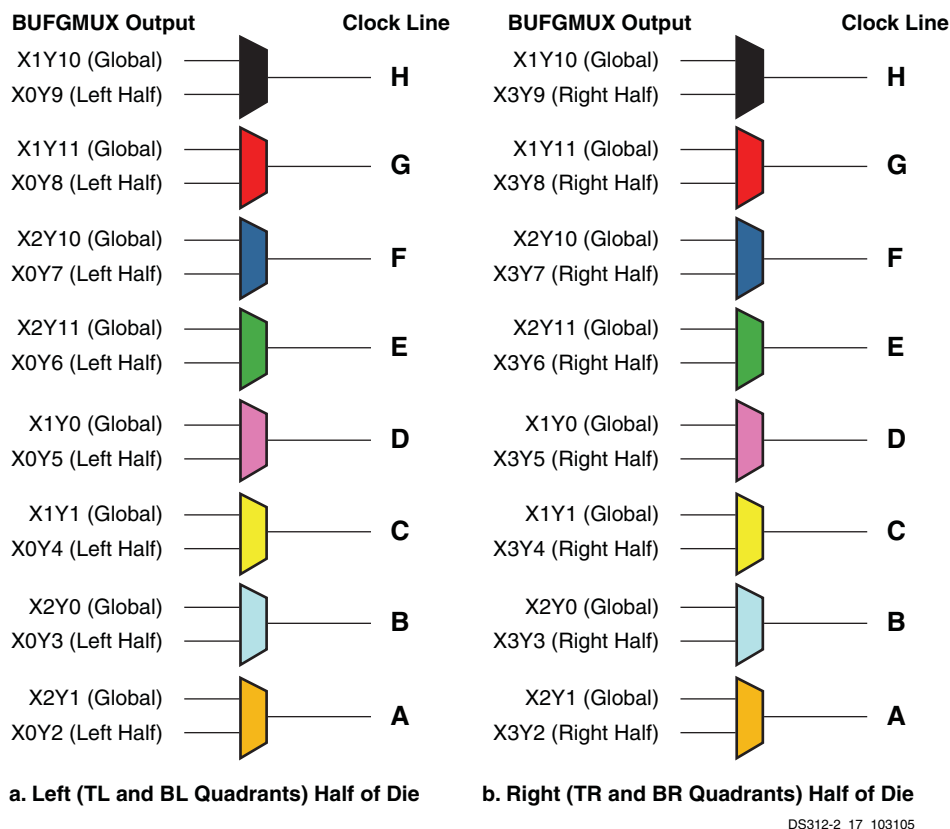

Figure 48: Clock Sources for the Eight Clock Lines within a Clock Quadrant
2. See Figure 46 for specific BUFGMUX locations, and Figure 48 for information on how BUFGMUX elements drive onto a specific clock line within a quadrant.
The clock routing within the FPGA is quadrant-based, as shown in Figure 46. Each clock quadrant supports eight total clock signals, labeled 'A' through 'H' in Table 41 and Figure 48. The clock source for an individual clock line originates either from a global BUFGMUX element along the top and bottom edges or from a BUFGMUX element along the associated edge, as shown in Figure 48. The clock lines feed the synchronous resource elements (CLBs, IOBs, block RAM, multipliers, and DCMs) within the quadrant.
Each of the eight clock signals in a clock quadrant derives either from a global clock signal or a half clock signal. In other words, there are up to 24 total potential clock inputs to the FPGA, eight of which can connect to clocked elements in a single clock quadrant. Figure 48 shows how the clock lines in each quadrant are selected from associated BUFGMUX sources. For example, if quadrant clock 'A' in the bottom left (BL) quadrant originates from BUFGMUX_X2Y1,